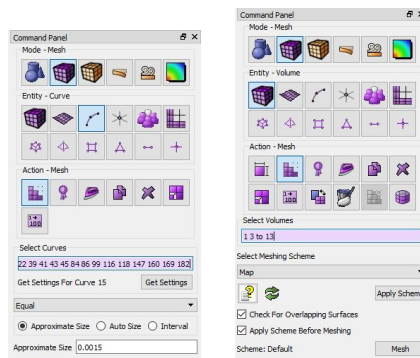

Figure 20: volume map
- (4) Curve scheme equal size 0.001 (Figure.20)
- (5) volume all scheme map : mesh volume all (Figure.20)